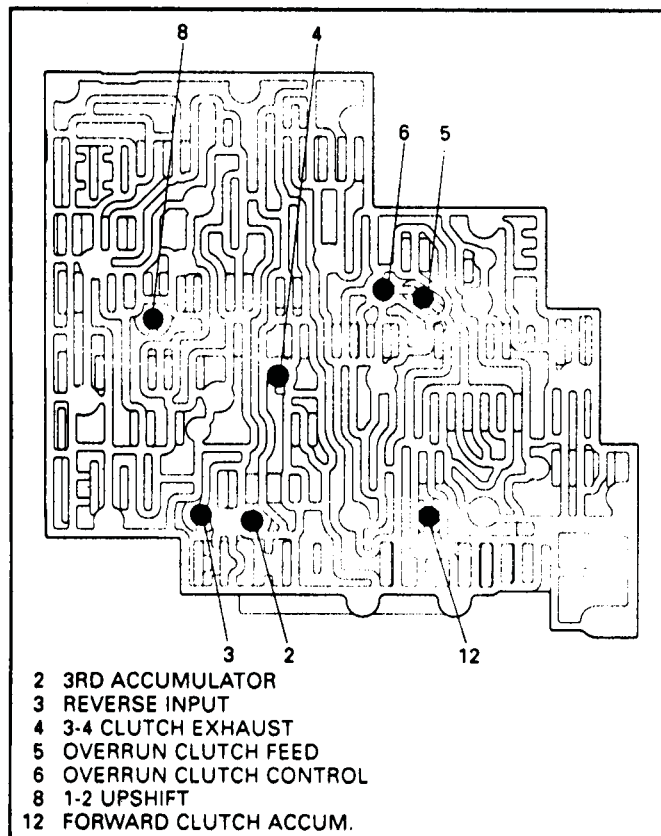

Figure 160
1. Install 7 checkballs into the proper pockets in the valve body, as shown in Figure 160, and retain them with a small amount of TransJel.